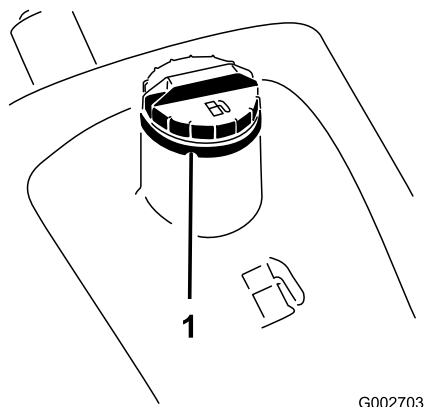

Figure 15
1. Clean the area around the fuel tank cap (Figure 15).